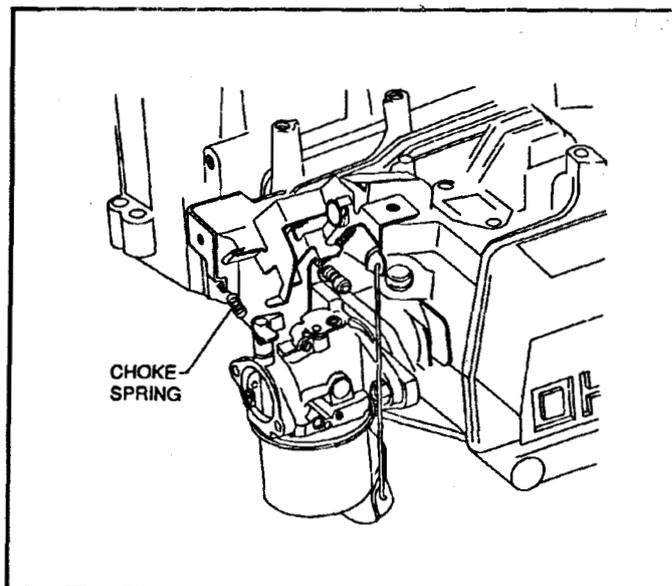

Figure 15
3. Disconnect the choke over-center spring. Note the position of the spring for correct assembly. See Figure 15.